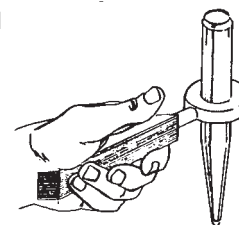

Figure 21.9
**Bull chisels** held by one worker and struck by another require the use of tongs or a chisel holder to guide the chisel so that the user will not be injured (Figure 21.9).